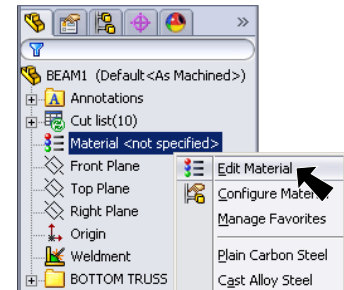

Fig. 31
Step 1. **Right click** **Material**  in the Feature Manager and click **Edit Material**, **Fig. 31**.